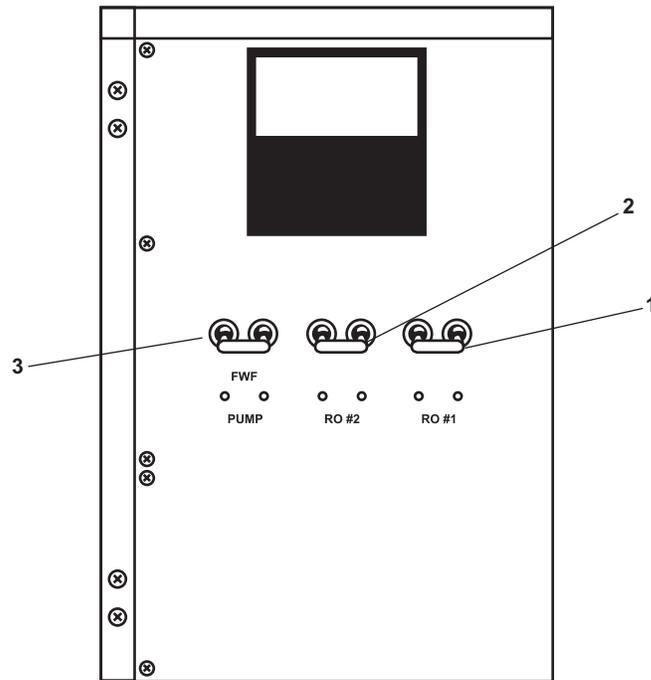

Figure 5. ROWPU 24 Vdc Control Panel
- a. RO #1 (figure 5, item 1)
- b. RO #2 (figure 5, item 2)
- c. FWF PUMP (figure 5, item 3)